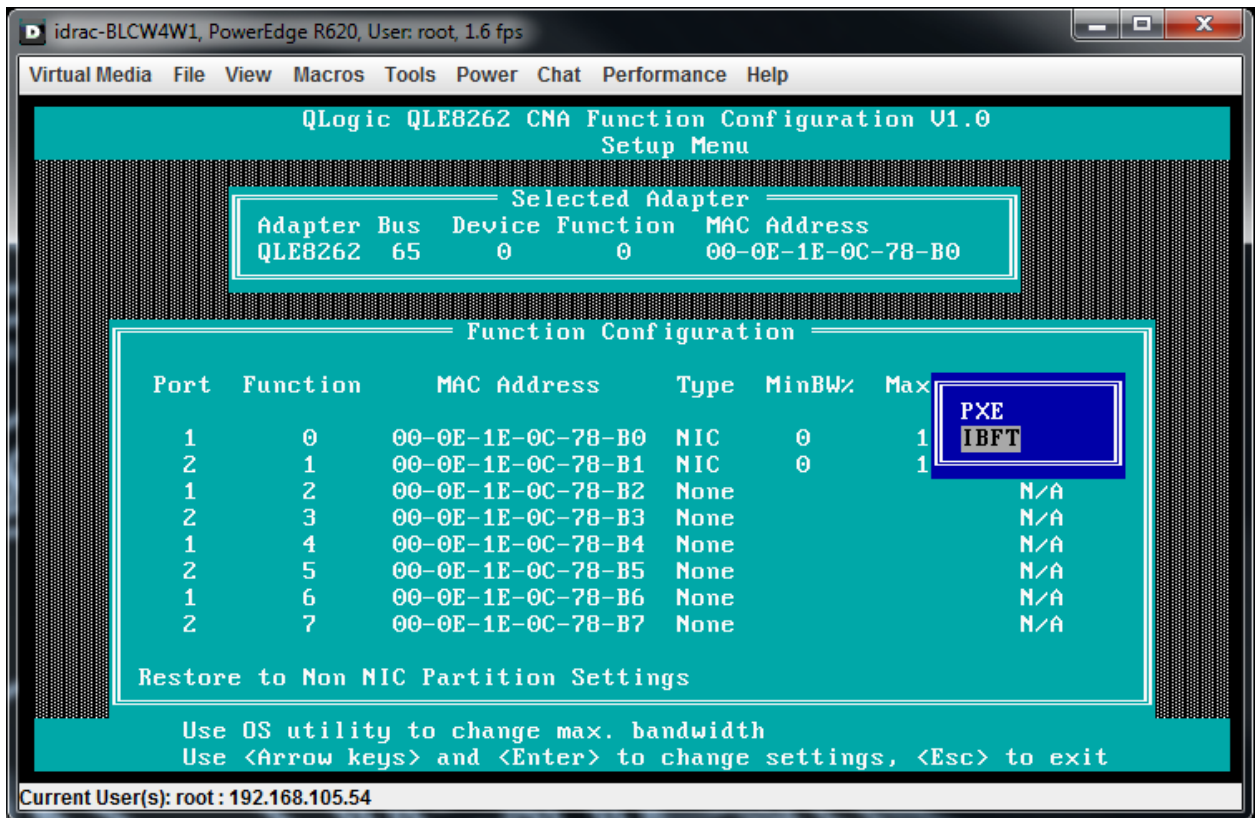

Figure 11 QLogic network adapter configuration menu
2. In the **Function Configuration** menu, change the Protocol type to IBFT for network adapter ports used for iSCSI Boot as shown in Figure 11.